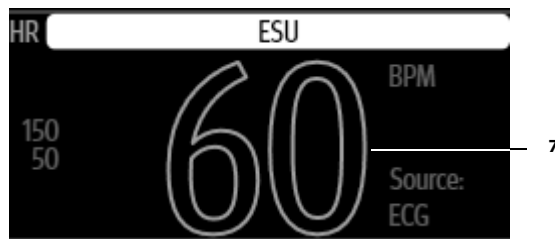

FIGURE 12-4 Example HR Digital Tile (during an ESU event)
- The HR tile displays the value in a hollow font (as shown in FIGURE 12-4) during an ECG Noise, ESU event, or when the reliability of the measurement value is compromised.